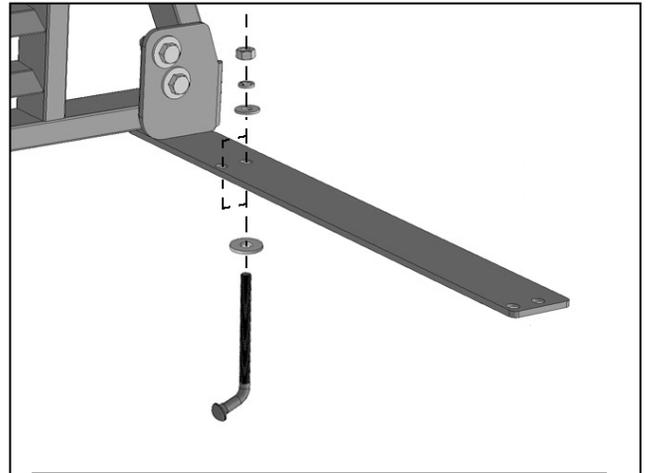

**Fig 2**
- a. Determine if the forward mounting holes in the Brackets line up with the front stake pockets. **NOTE:** On some vehicles, the front stake pocket may be covered with a plastic bed cap. Remove or cut out the cover as required to gain access to the stake pocket, **(Figure 2)**.